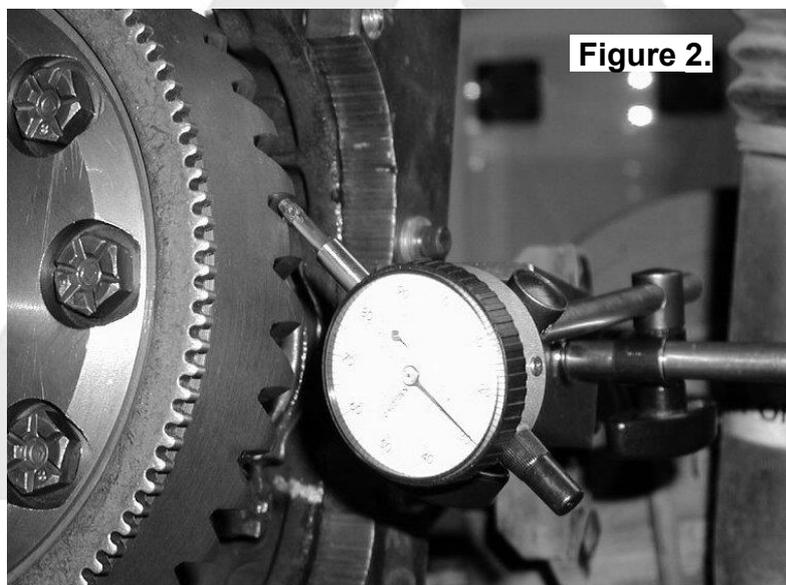

Figure 2.
- Set a dial indicator on one of the ring gear teeth. (Fig.2.)